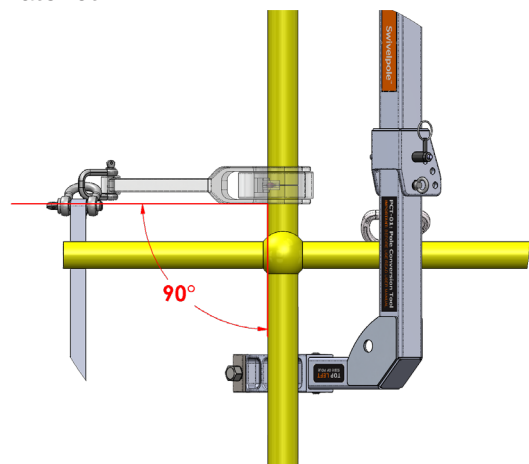

Fig 11
- ☐ Holding the ratchet pipe cutter horizontally, cut the pole using a 90-degree cutting motion. Avoid any downward pressure when cutting, as this could break the blade. (Fig 11)